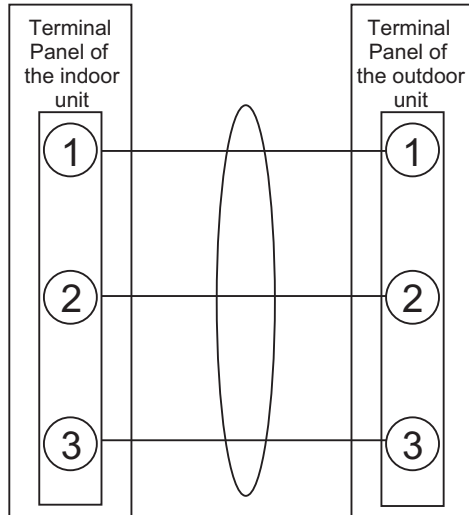
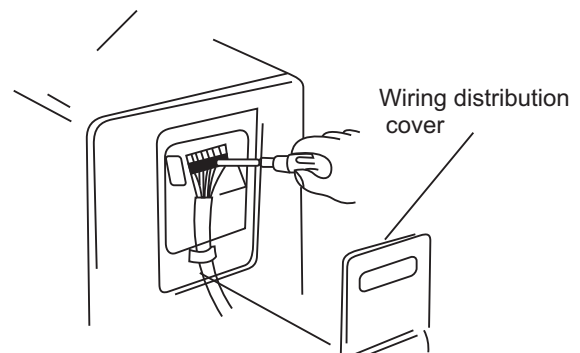

Figure 14
Figure 17
- (1) Before wiring, make sure the rated voltage indicated on the nameplate conforms to the local power voltage.
- (2) Wiring should be carried out in accordance with the instructions on the electrical schematic diagram (Figure 14).
- 2) Connect the terminals on the heat pump as required in the Figure 14 and the Figure 17: